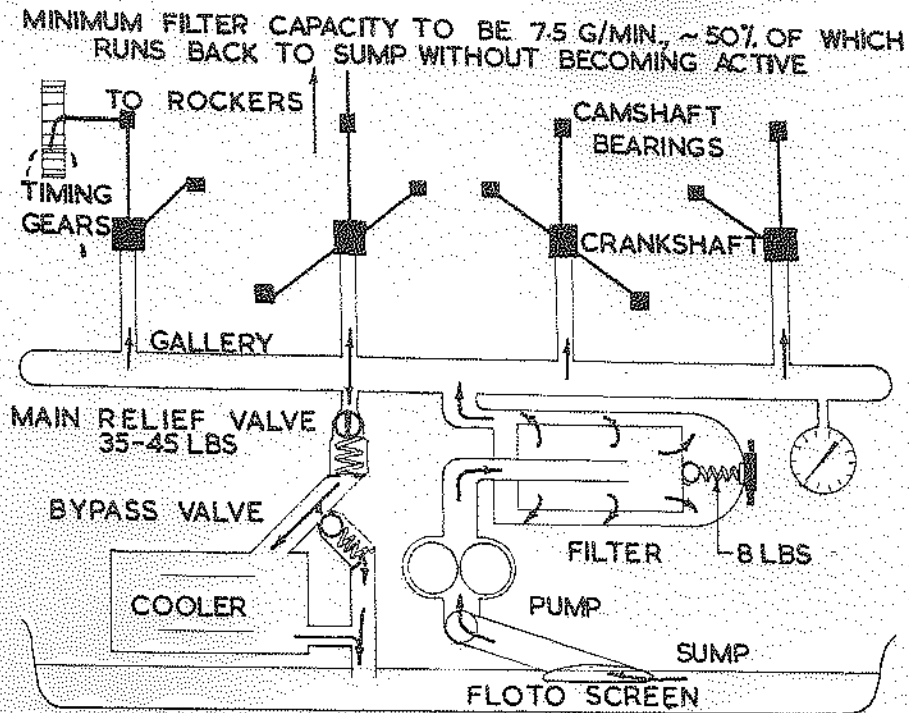

Fig. 58 - Schematic diagram of engine lubrication
11. Engine oil circulation is shown systematically in Fig. 58.